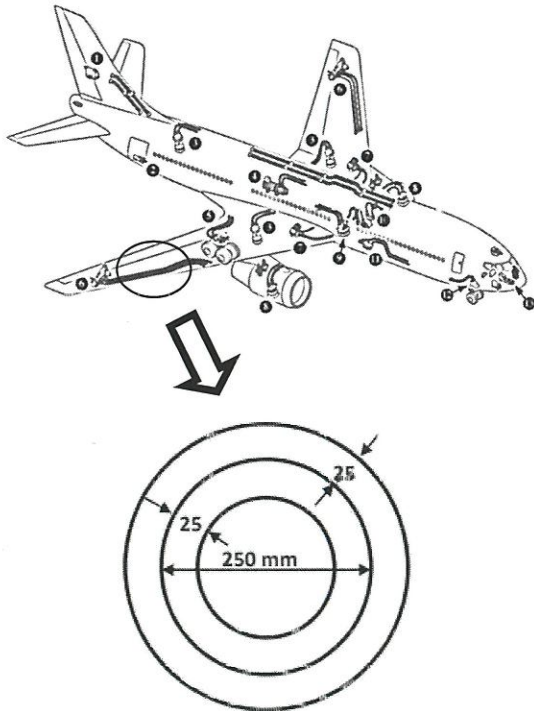

Figure Q5(b)
- (b) **Figure Q5(b)** shows a cross section of flap/slat compound tube used in Airbus 330 actuator system. It is formed by shrinking a tube of 250 mm internal diameter and 25 mm wall thickness onto another tube of 250 mm external diameter and 25 mm wall thickness. Both tubes are made of the same material. The stress set up at the junction owing to shrinkage is 10 MPa. The compound tube is then subjected to an internal pressure of 80 MPa. Determine the final stress setup across the section. (16 marks)